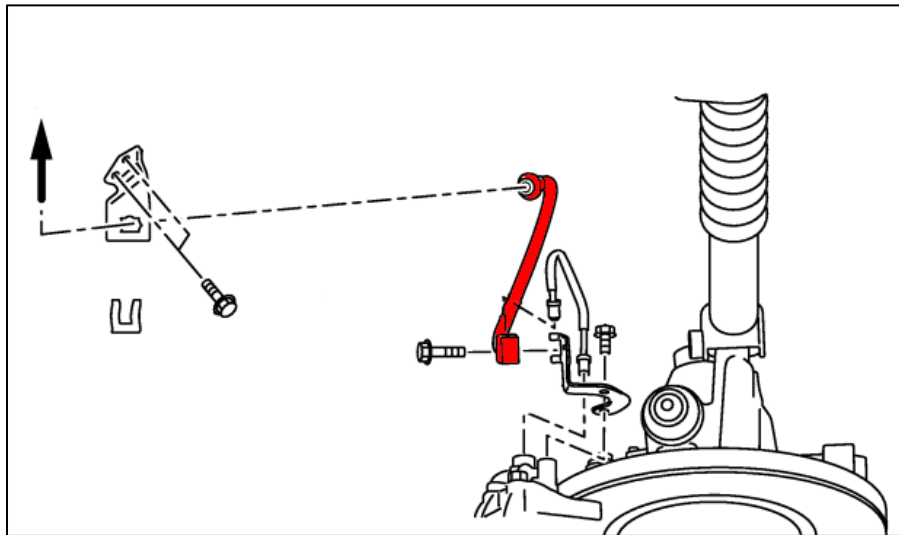

Figure 1
5. Starting in the rear of the vehicle, remove the OE Brake Line. Prepare a bucket or rag to catch Brake Fluid that will leak once the line is removed. *Figure 1.*